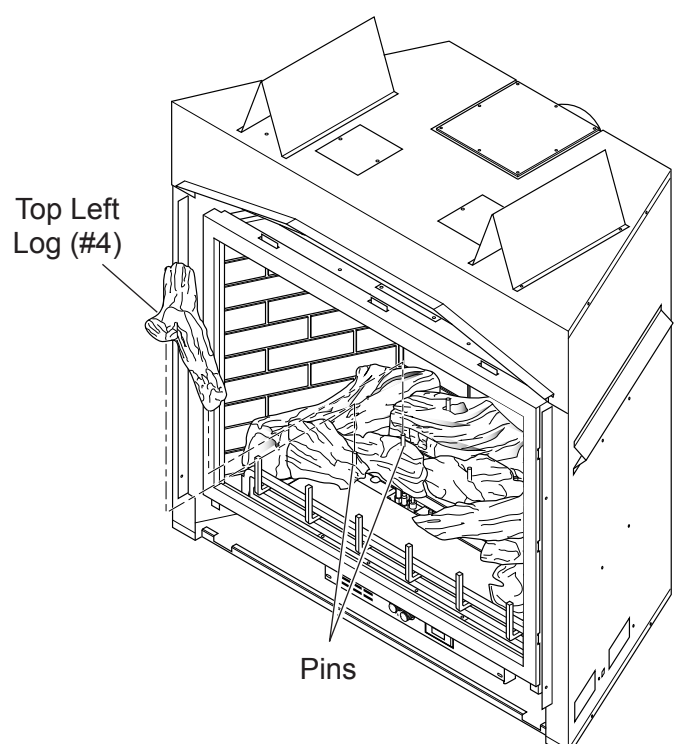

Figure 47 - Installing Top Left Log (#4)
8. Place top left log (#4) on two pins on left mid log. See Figure 47.